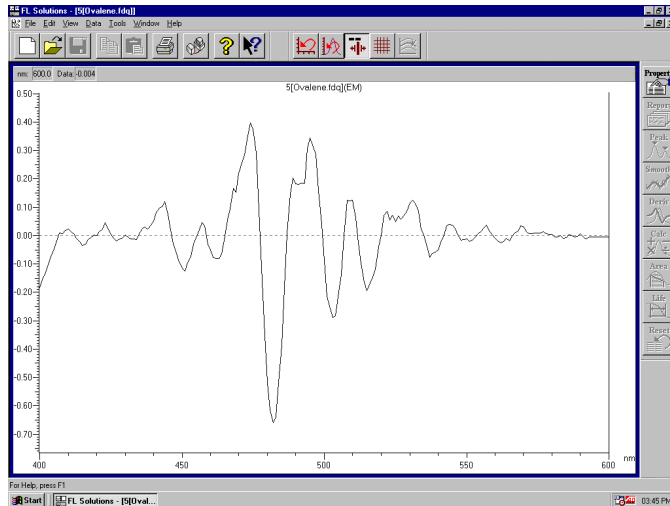

Fig. 6-41
A spectrum appears as shown in Fig. 6-41. Spectrum tracing and scale change are possible. The spectrum can be printed by selecting the Print (P) command from the File (F) menu or click the  button.